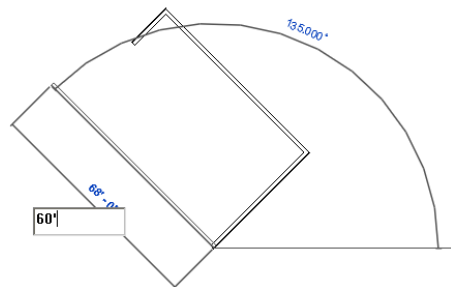

Figure 3-46 Sketching the fourth inclined wall segment
7. To create the next wall, move the cursor upward toward the left and invoke the perpendicular snap override as in step 5. Enter **60' (18288 mm)** as the length of the wall segment and press ENTER to create the fourth inclined wall segment, as shown in Figure 3-46.